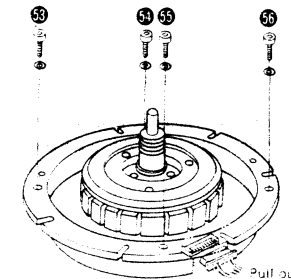

Fig. 13
2. Remove the 4 setscrews (Fig. 13 : 53 ~ 56) of the stator frame. (Use the hexagonal wrench (M4)).